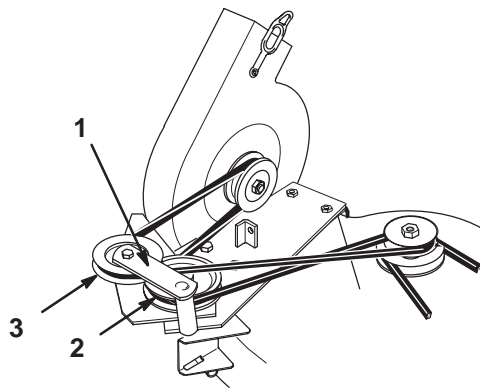

Figure 33
2. Remove the blower belt from the mower spindle pulley (Fig. 33).